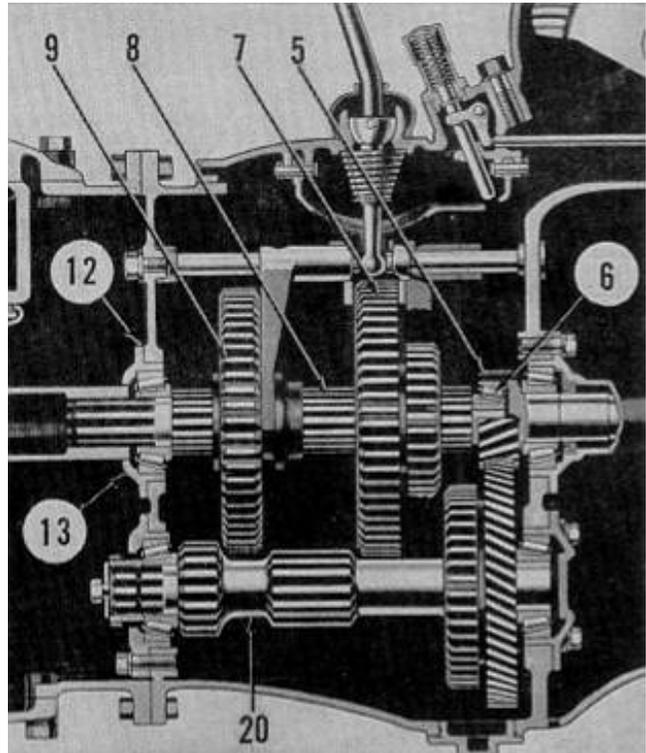

Fig. F054 - Transmission sectional view on models 2N-9N.
72. **MAINSHAFT.** After transmission is removed from tractor as outlined in paragraphs 70 and 70A and shifter rails and forks are out proceed as follows: Remove bearing retainer (13-Fig. F054 or F056) and shims (12). Move mainshaft toward rear and remove pilot bearing cone (6) using a suitable puller. Pull mainshaft out toward rear and remove sliding gears (7 & 9). Renew worn or damaged parts and reassemble as shown. NOTE: If mainshaft, sliding gears and rear bearing assembly only are to be removed and reinstalled, it will not be necessary to perform the front section split as required for complete transmission removal. Mainshaft and gears may be removed after shifter rods forks are out.